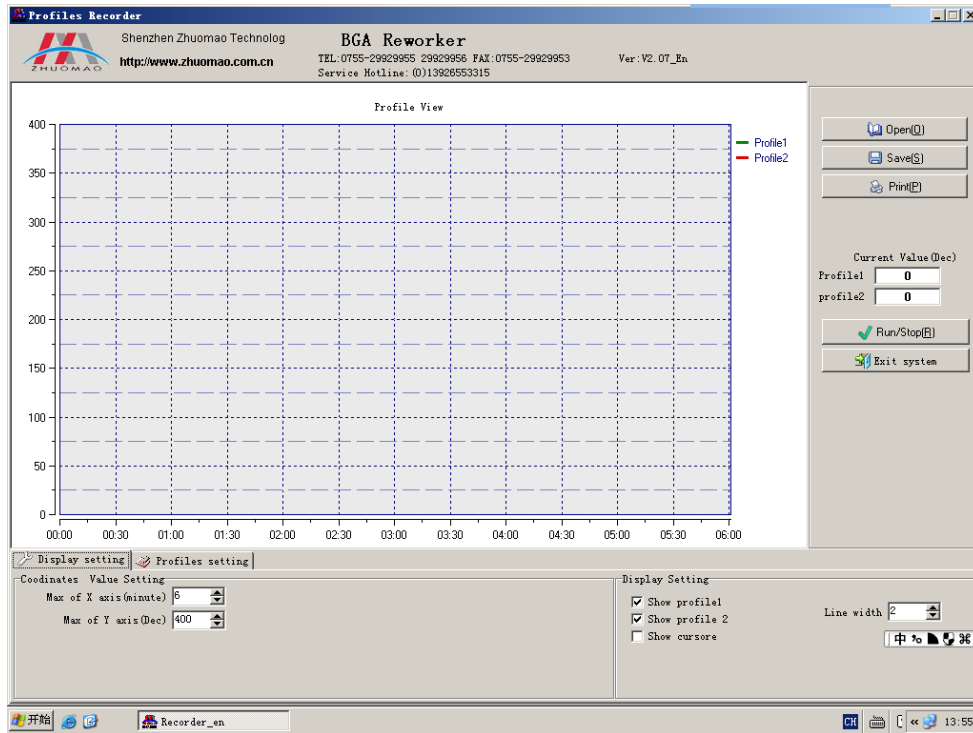
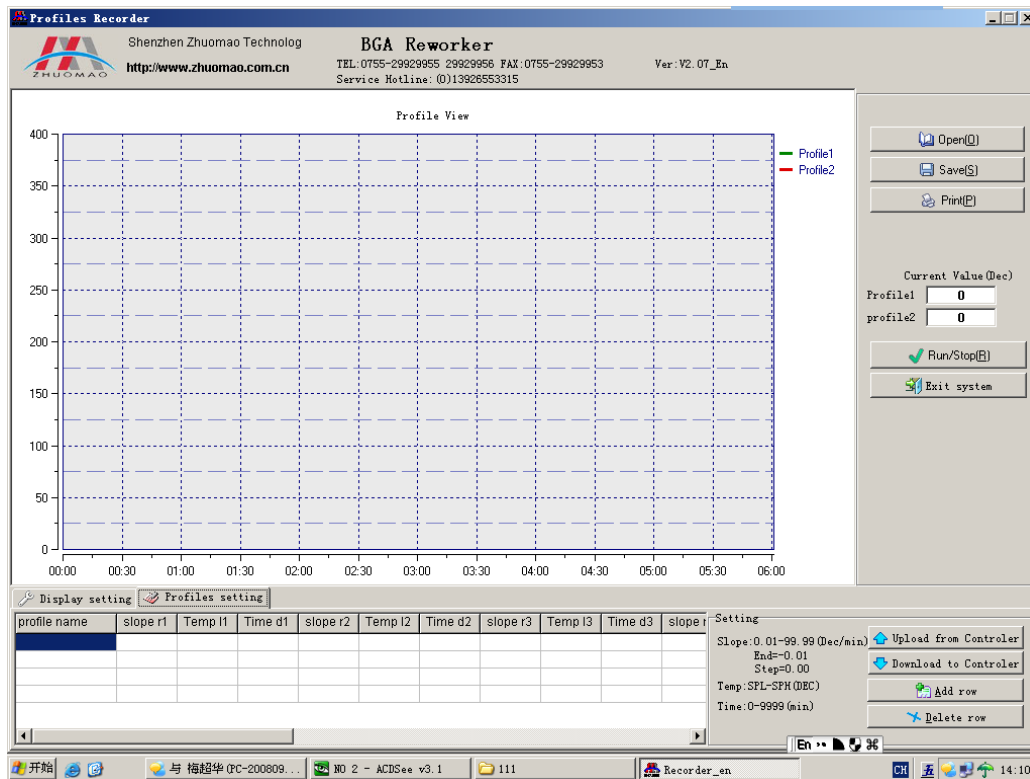

Figure 10
Figure 11
### 3、Development Features Instruction (figure 10、 figure 11)
- (1)、Click on the icon, the screen display as (Figure 10) , bottom of the screen for setting the temperature curve parameters, drag the cursor point 160, with reference parameter set reference value in the table of parameters to be modified.
- (2)、After the setting of the paragraphs parameter, click on as (Figure 10) "to download data to the instrument" so that the data can be stored in the instrument, (Remark: The group number displayed on the meter number during transmission is the NO. of the data that transmitted, the original number of the data in the instrument will be overwritten).